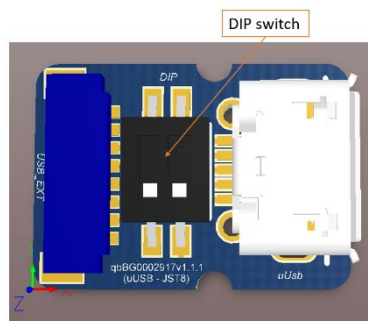

Figure 21: logic board: connections useful for programming
1. Note that, first of all, the programming switch pins (refer to Figure 21) should be both on **ON** position;